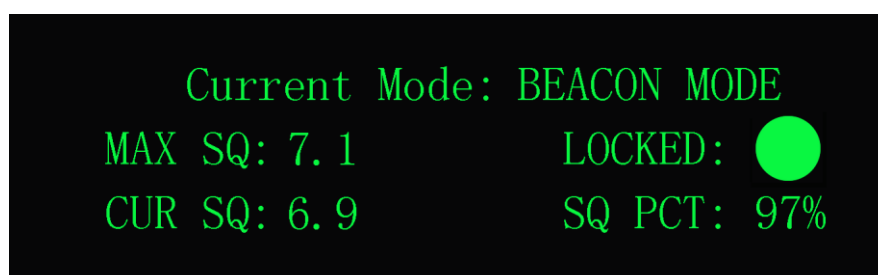

Figure 6-3 Signal Quality Indication
3. The modem's receive signal quality indication is shown on Figure 6-3.